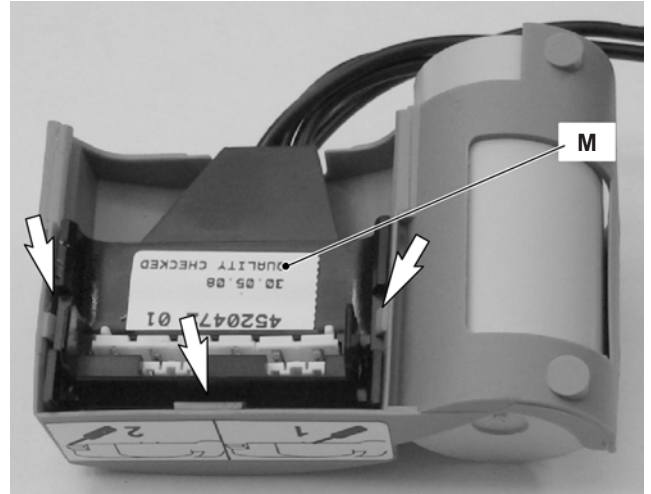

Figure 8.5
- 3 Remove the connector M of the cover box by levering with a screwdriver in as shown in (Figure 8.5).